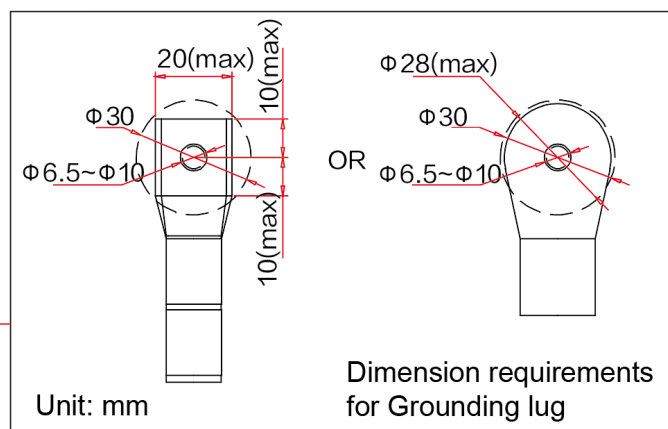

Fig. 4-4 Grounding Method
- Internal grounding (required): Connect PE wire to internal grounding stud located on the lower right side of the AC busbar, as shown in Fig. 4-4 on the left.
- External grounding (optional): Connect grounding cable to external grounding hole located at the bottom of the machine next to the AC port, as shown in Fig. 4-4 on the right.